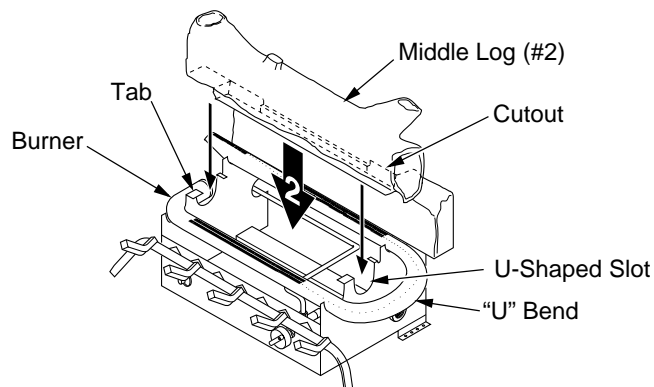

Figure 21 - Installing Middle Log (#2)
2. Place the base of the middle log (#2) in the U-shaped slots of the grate base in front of the back log. The cutout on the right of the middle log should fit over the burner (see Figure 21, page 14). Make sure the front of the middle log is resting on the tabs of the grate base and the cutout area is centered over the burner "U" bend.